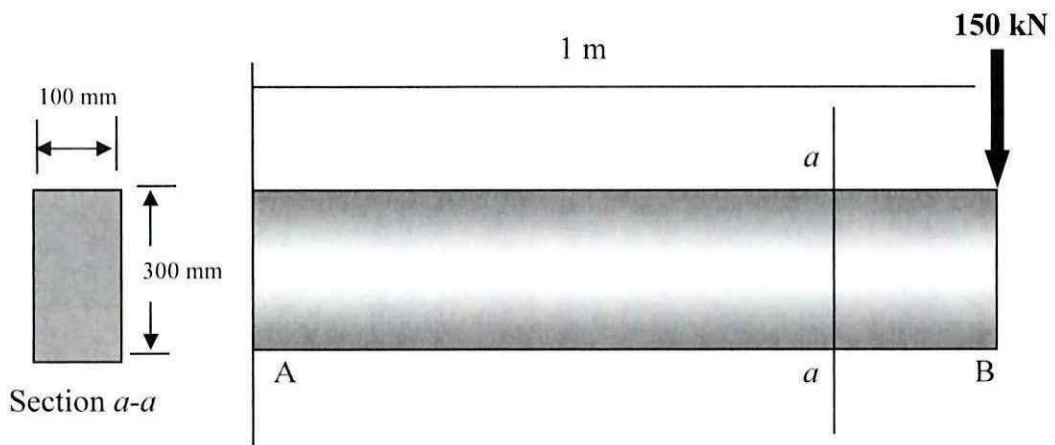

Figure Q6
- Q6** **Figure Q6** shows the cantilevered aluminum alloy rectangular beam with $G = 26 \text{ GPa}$ and $E = 68.9 \text{ GPa}$. Determine: